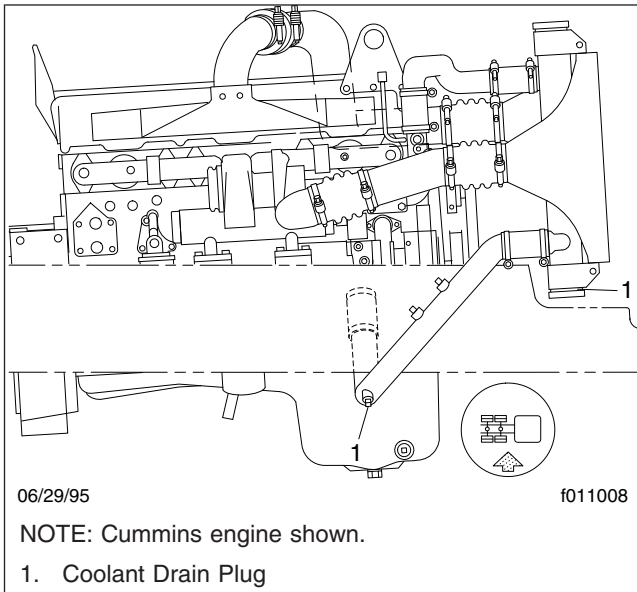

Fig. 2, Coolant Drain Plug Location
- Remove the drain plugs at the radiator side tank and at the lower radiator outlet pipe elbow, if equipped. See Fig. 2. Allow the coolant to drain.